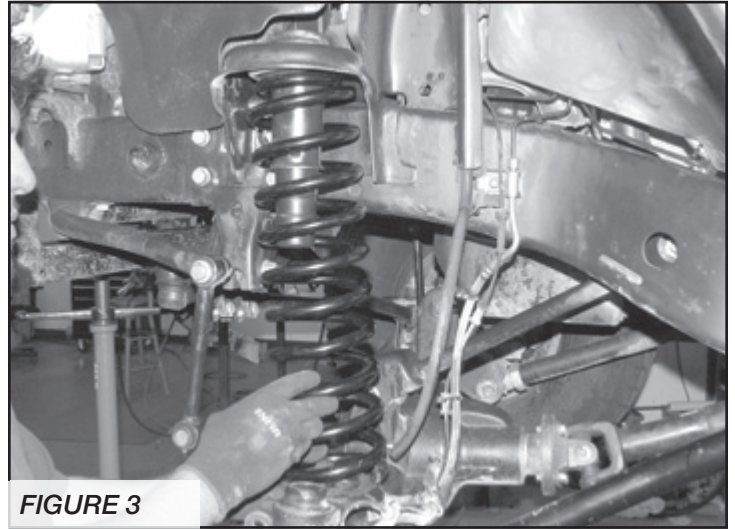

FIGURE 3
6. Install the new FT50391BK front coil spring. SEE FIGURE 3